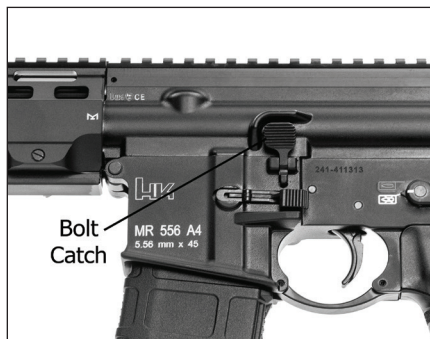

Fig. 12 – Depressing Bolt Catch to Chamber a Cartridge
6. Depress either the upper portion of the paddle or push down on the lever of the bolt catch. The bolt should go forward, stripping the top cartridge from the magazine and feeding it into the chamber (Fig. 12).